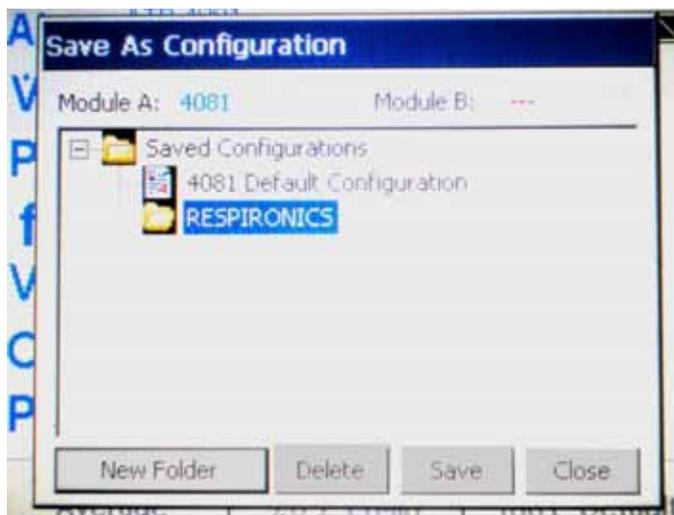

Figure 8-10: Save As Configuration Screen
5. Verify that **RESPIRONICS** is highlighted and touch **Save** (refer to Figure 8-10).